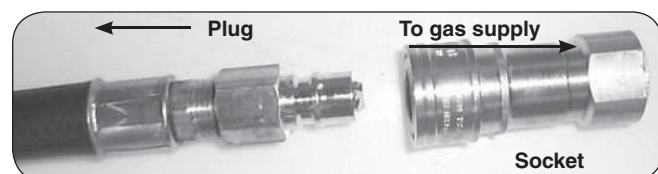

Fig. 7-4 Pull out plug
2. Pull sleeve back and pull out plug (Fig. 7-4).